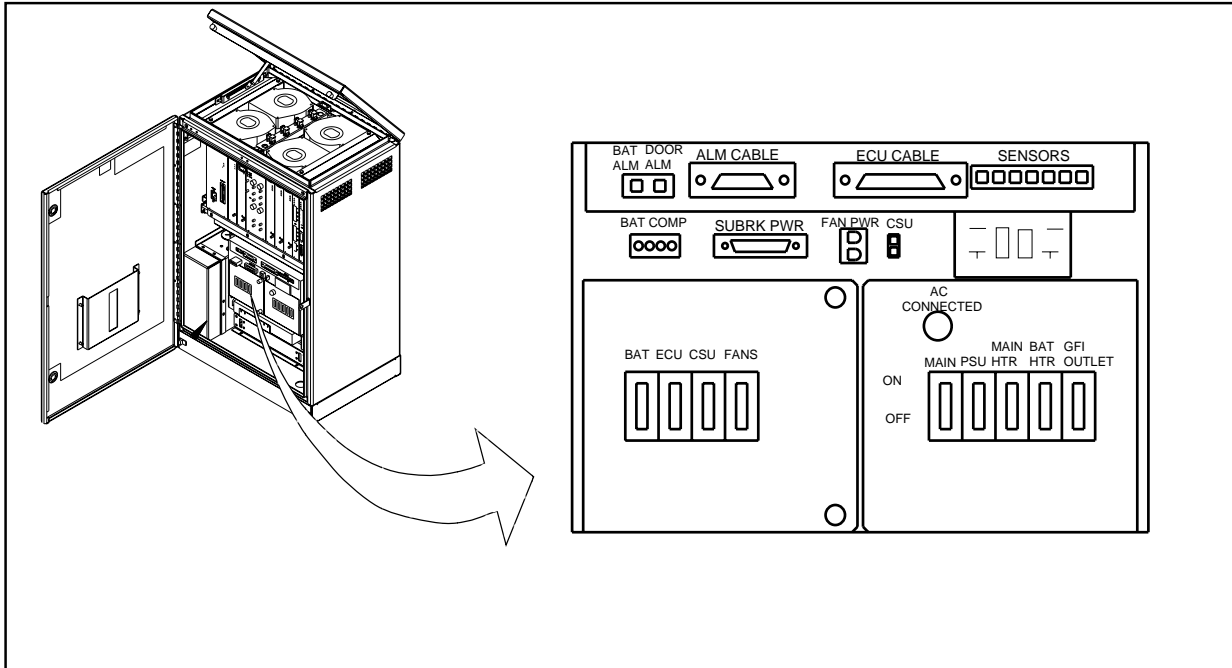

Figure 5-21. AC/DC Distribution Box
4. Place the **BAT HTR** circuit breaker on the right side of the AC/DC Distribution Box in the OFF position. See Figure 5-21 on page 5-46